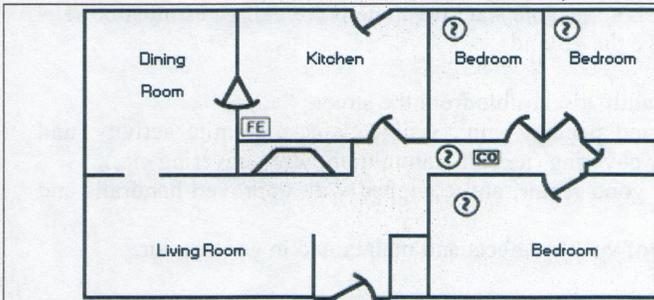

Figure 1: A smoke detector should be located between the sleeping area and the rest of the dwelling unit as well as in each bedroom.
1. Located on each level of the dwelling, in sleeping areas, and in hallway areas within ten (10) feet of each bedroom door (Figures 1, 2, 3 and 4).
1. Located in all sleeping areas in each level (Figures 1, 2, 3 and 4).